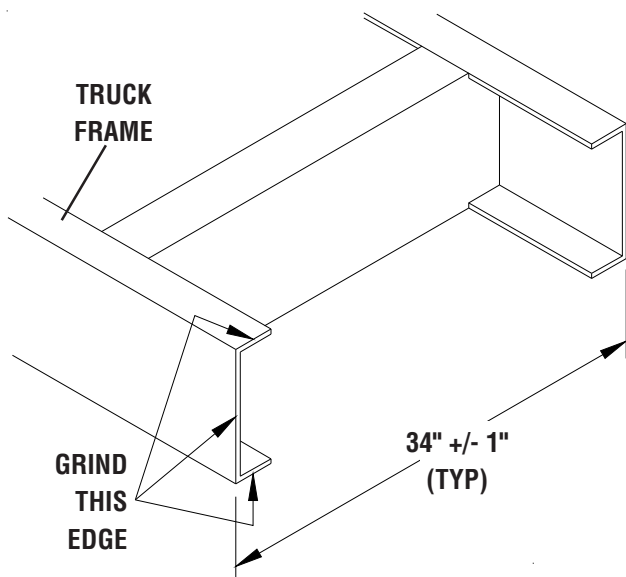

Figure 37
1. Start by grinding the inside and outside of the frame ends to prepare for the weld. See Figure 37.